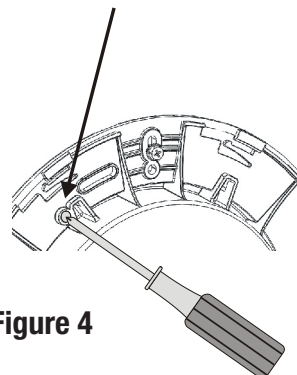

Figure 4
**To remove the Universal ColorLogic/CrystaLogic LED Light from the LFGUY1000 Niche:** Remove the trim ring by turning it counter clockwise. If removal is difficult, carefully insert a flat head screwdriver in one of the four front slots to help rotate the trim ring. With the trim ring removed, Insert a small screwdriver into the access hole as show below (Figure 4). Pushing straight into the hole will release the lock, allowing you to rotate the light counter clockwise. Remove the screwdriver and continue to rotate the light until it can be removed from the light fixture.